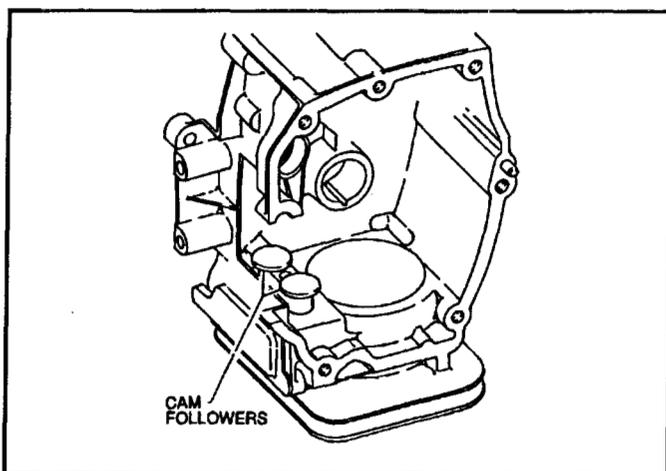

Figure 80
1. The cam followers are both the same and may be used in either the intake or exhaust position. However, if the engine has been run and the cam followers are being reused, they should be installed in their original positions to maintain existing wear patterns. Lubricate the cam followers with SAE 30 engine oil prior to assembly. See Figure 80.